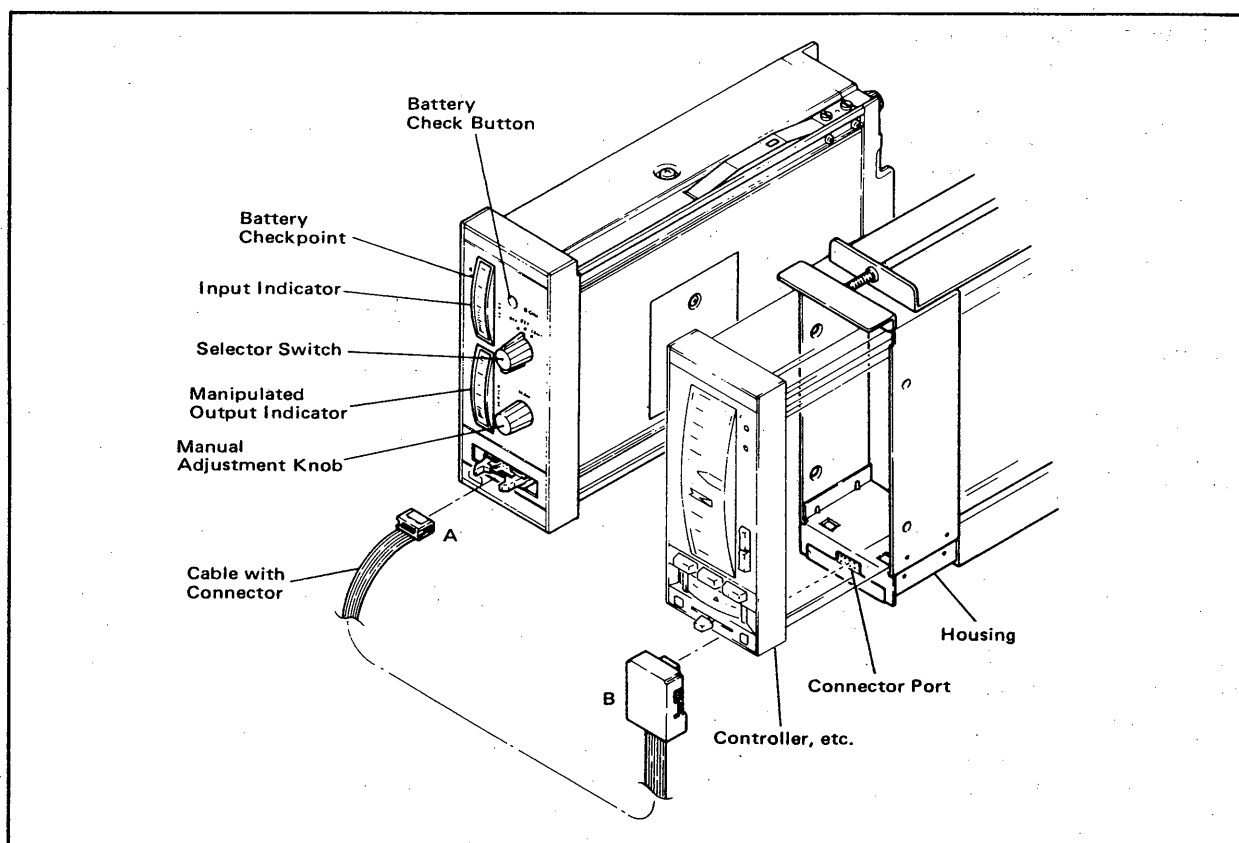

Figure 5-17. SPBD Connection.
- (2) Insert the cable from the SPBD manual control station into the jack at the bottom of the housing and switch the output signal from the SLCD to the SPBD. (See Figure 5-17.)
- (3) Select the CHECK switch on the tuning panel for possible causes of a failure. If the failure is considered attributable to a hardware fault, remove the instrument from the panel and troubleshoot it as instructed in Chapter 7.